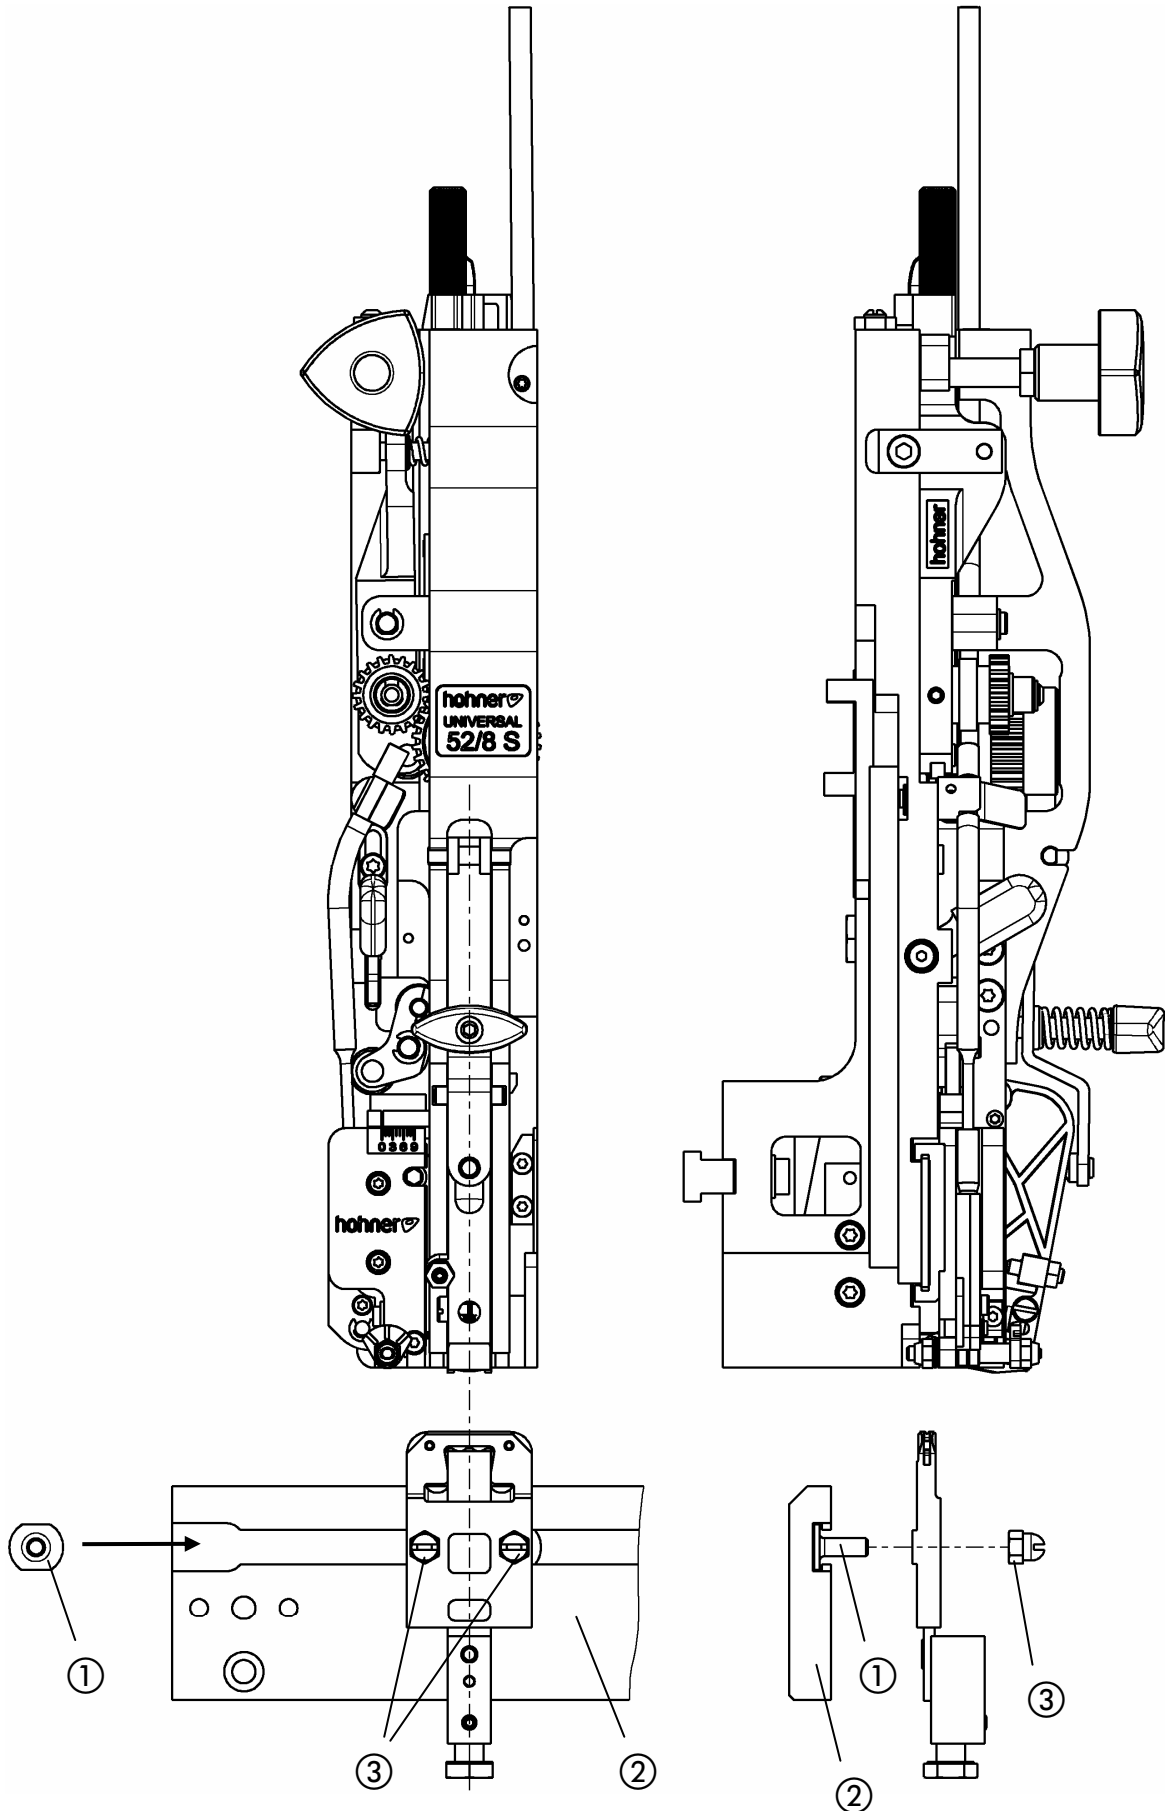

Fig. 7
- Fig. 7 -
- Install slotted screws ① (and tenon block) laterally into the clincher box mounting rail ②. Slightly screw down clincher box using slotted screws ① and clamping nuts ③.